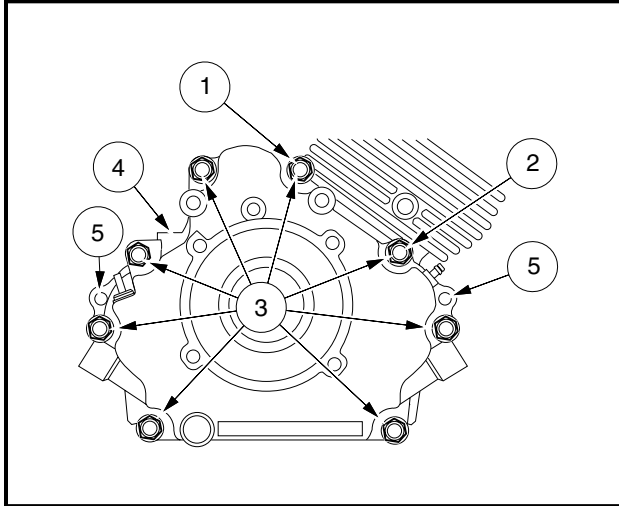

Figure 13-42 Crankcase Cover
2. Remove nuts and clamps at two-ended bolts (1 and 2) (**Figure 13-42, Page 13-24**).
3. Remove eight bolts (3) and remove the crankcase cover (4) (**Figure 13-42, Page 13-24**). See following **NOTE**.
NOTE: If the crankcase cover sticks, tap lightly with a plastic mallet on alternate sides near the dowel pins (5) (**Figure 13-42, Page 13-24**).